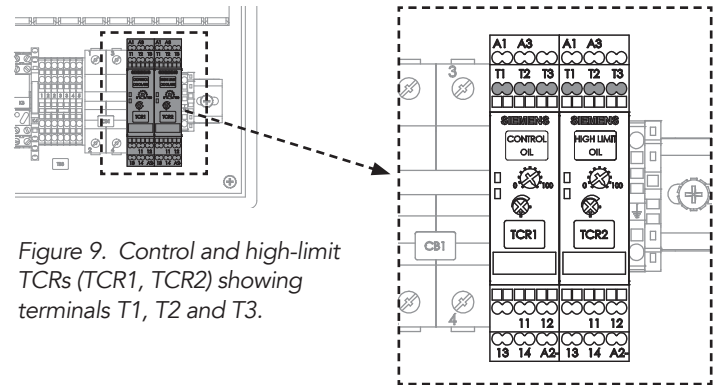

Figure 9. Control and high-limit TCRs (TCR1, TCR2) showing terminals T1, T2 and T3.
3. Using the ohmmeter, measure the resistance between TCR terminals **T1** and **T2** (See Figure 9):